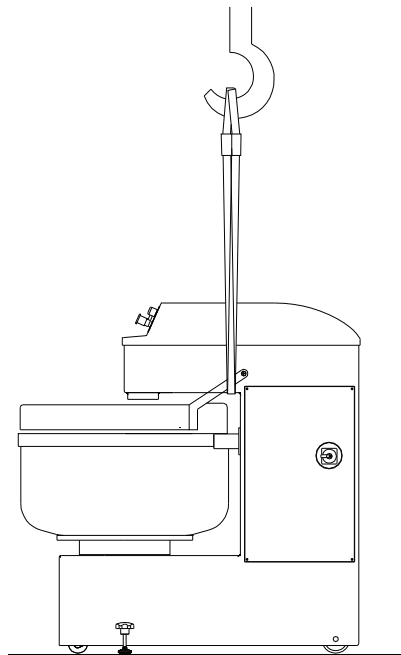

Fig. 3 Handling
- 1) pass a rope suited to lifting weights under the head at the point at which it meets the column, as in **Fig. 3** on page 20;
- 2) attach the rope as shown in **Fig. 3** to a lifting device (crane, bridge crane, hoist);